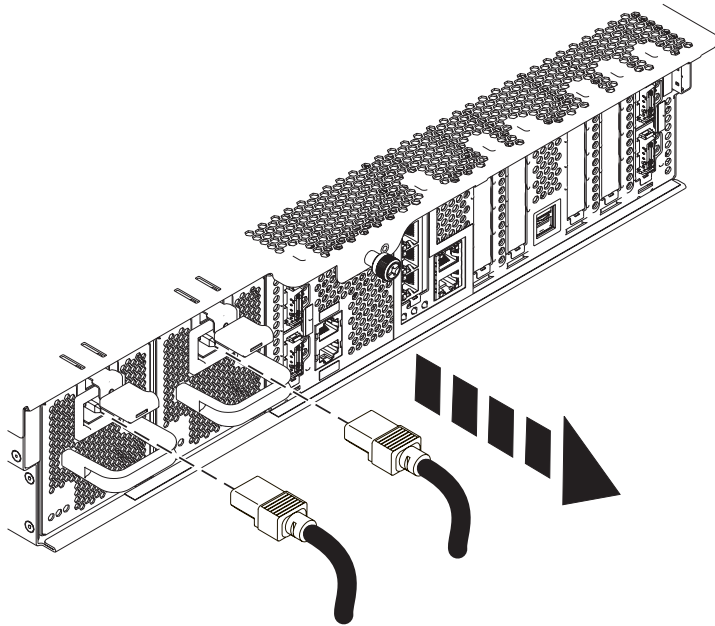

Figure 1. Removing power cords
- c. Disconnect all power cords from the unit you are servicing. See Figure 1 on page 4.